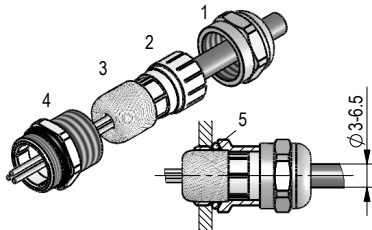

Fig. 3: Cable connection PG7
**With PG7 (fig. 3):**
- Push the nut (1) and the plastic bushing (2) onto the cable.
- Put the wire screening (3) over the plastic bushing (2).
- Slide strands through screw hole (4). Insert plastic bushing (2) into the screw fitting.
- Screw on the nut (1) and attach the complete bolting (with O ring (5) for sealing) to the hood.